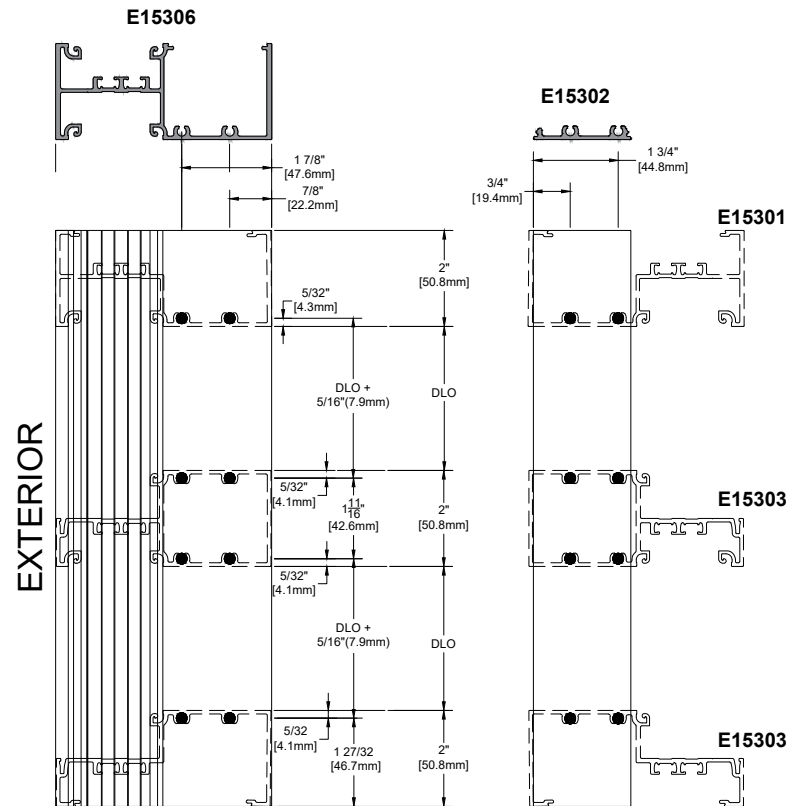

FIG. 1.
- a. Drill #12 clearance hole (#2 drill bit) as shown in **FIG.1** below.